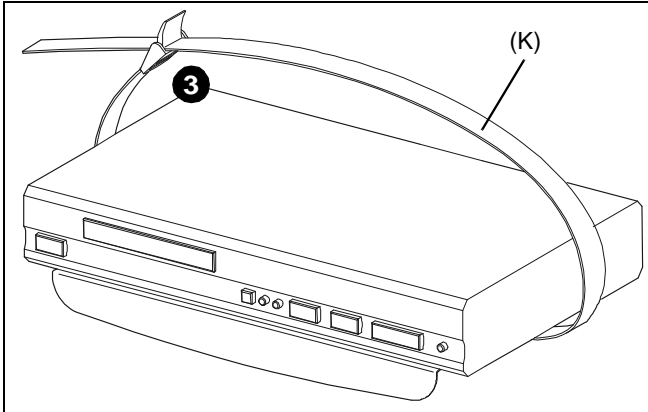

Figure 5
3. Loop strap (K) over top of equipment and slide strap end into clasp. (See Figure 5)